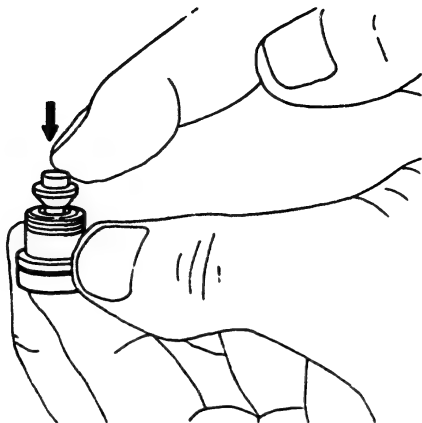

**Fig. 63 Plunger slide test**
2. After cleaning the plunger assembly with light oil, make sure that the plunger slides smoothly into the plunger barrel under its own weight, when the plunger assembly is inclined at  $60^\circ$  as shown in Fig. 63. Change the plunger position by rotating it, and check the plunger movement several times in the above manner. If a plunger slides into the plunger barrel too quickly or does not slide smoothly, replace the plunger assembly.